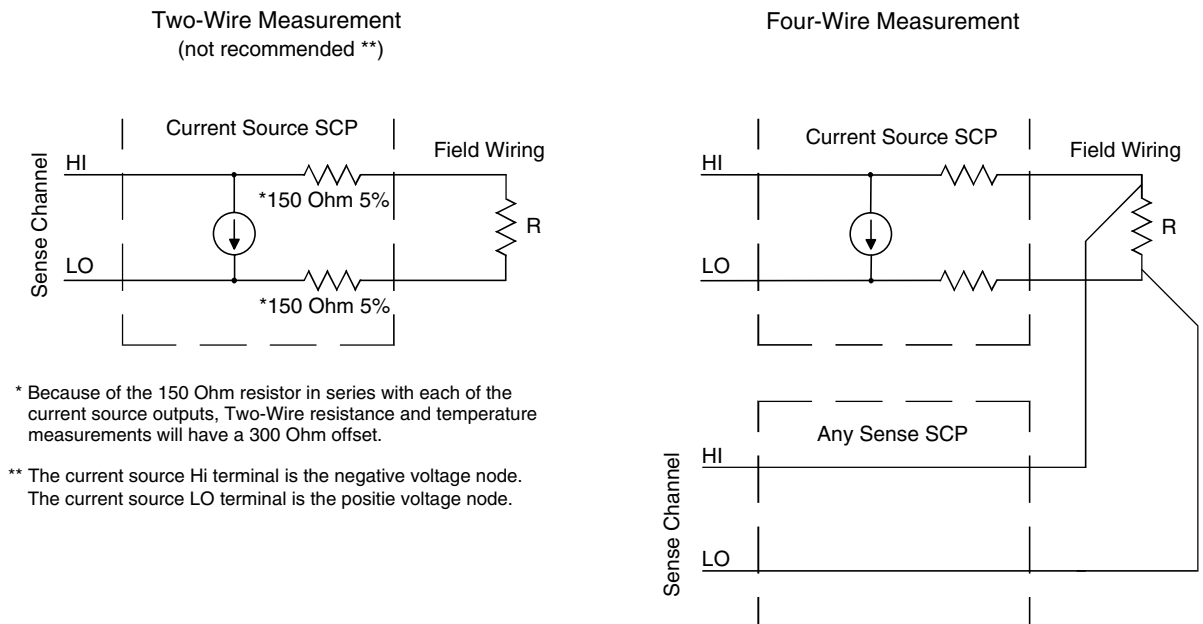

Figure 4-5. Resistance Measurement Sensing
Resistance measurements assume that there is at least one Current Source SCP installed (eight current sources per SCP). See Figure 4-5.
- The *ch_list* parameter specifies which channel(s) to link to the resistance EU conversion. These channels will sense the voltage across the unknown resistance. Each can be a Current Source SCP channel (a two-wire resistance measurement) or a sense channel separate from the Current Source SCP channel (a four-wire resistance measurement). See Figure 4-5 for diagrams of these measurement connections.
Temperature measurements using resistance type sensors involve all the same considerations as resistance measurements discussed in the previous section. See the discussion of Figure 4-5 in "Linking Resistance Measurements".